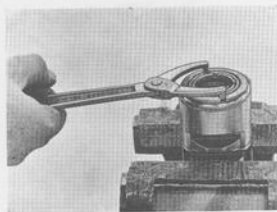

Fig. 6-82. Removing ring
9. Secure the piston between soft vice jaws and unscrew the ring nut (27) with a hook spanner, see Fig. 6-82. Remove the sleeve (24) and its ring (25), the packing (41) and the pipe halves (42).